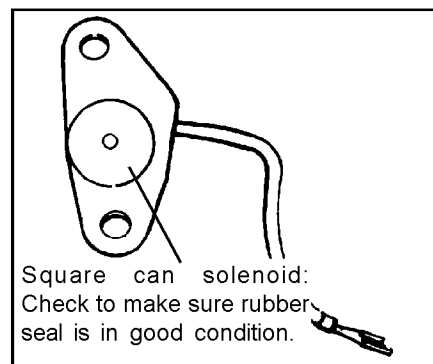

Figure 15
**Square can solenoid:** Make sure the rubber seal is in good condition and has no nicks or cuts (**See Fig. 15**). If the seal is damaged, you will have to replace the solenoid. If the seal leaks the transmission will be in passing gear all the time. Install the solenoid into position, **DO NOT** use the metal gasket supplied in the kit. Install the two (2) 1/4-20 bolts **FINGER TIGHT**. Remove the pan bolt you used to hold the plate and gasket in place.